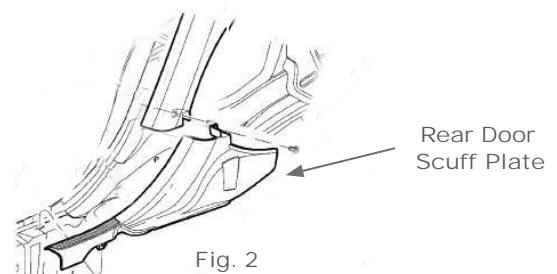

Fig. 2
- B. Remove the rear door scuff plates on the driver and passenger sides. These will be reinstalled after the ABS floor pan. (See Fig. 2)
- C. Reinstall the OEM rear door scuff plates on the driver and passenger sides. (See Fig. 2)